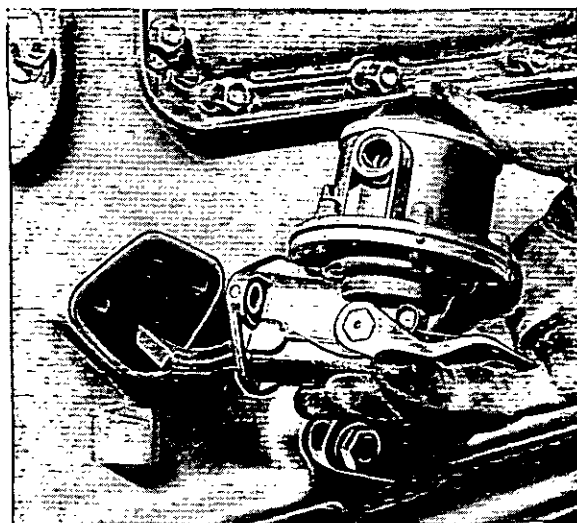

Fig. M.8. Removing Fuel Lift Pump.
2. Remove the pump and joint (Fig. M.8).